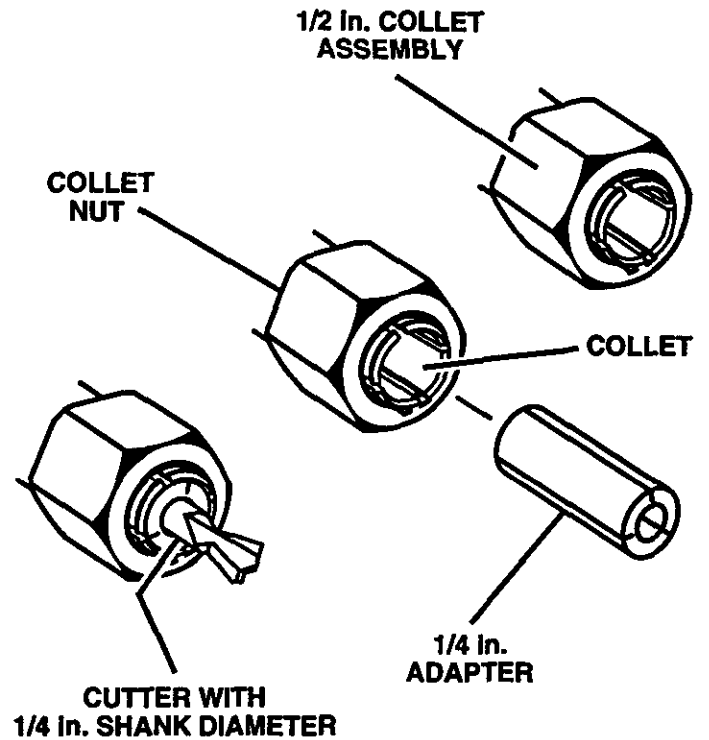

Fig. 5
- To use cutters with 1/4 in. shank bits, insert the 1/4 in. adapter provided inside 1/2 in. collet. *See Figure 5.*